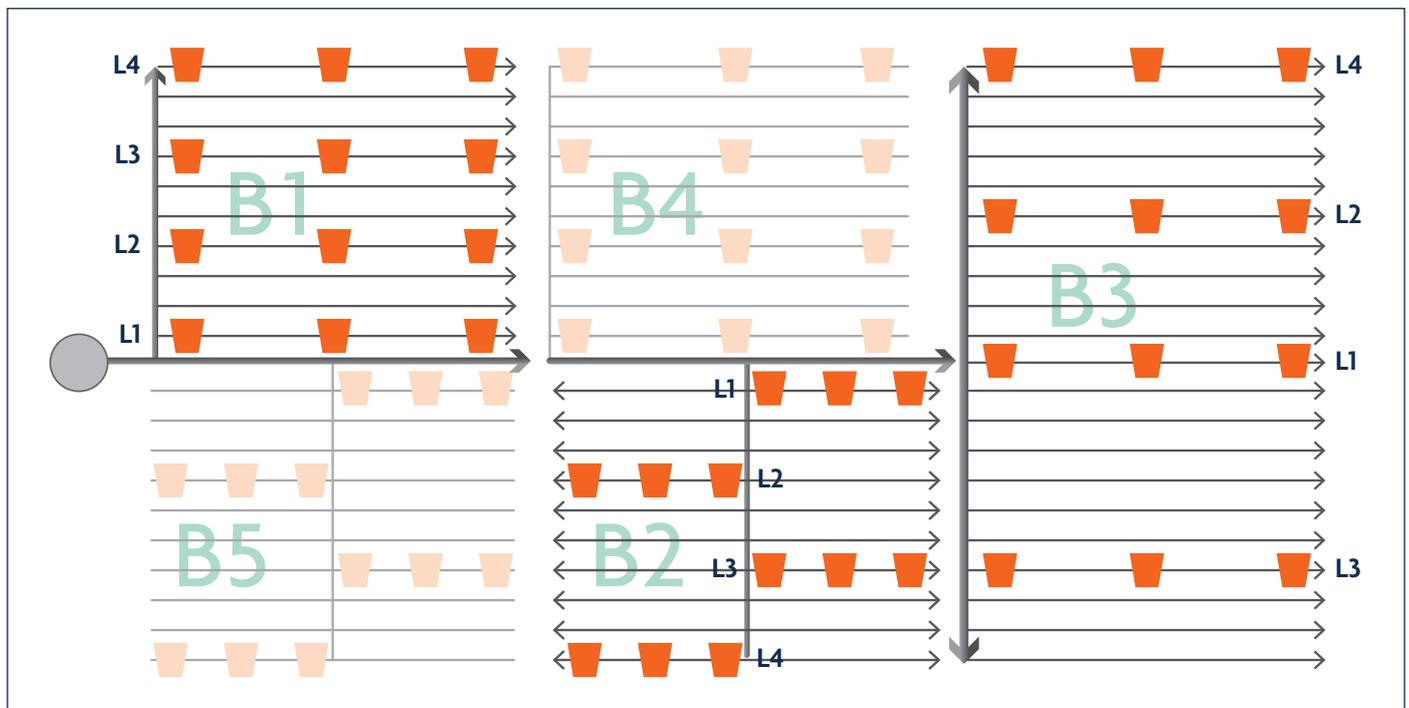

Figure 2.1. Recommended locations for emitter or sprinkler flow measurements for drip/micro irrigation calibration.
Calibration is based on measurements collected at specified locations within an irrigation station (Figure 2.1).
5. Collect the output from one emitter at the beginning, middle and end of the lateral nearest to the station inlet (Figure 2.1)